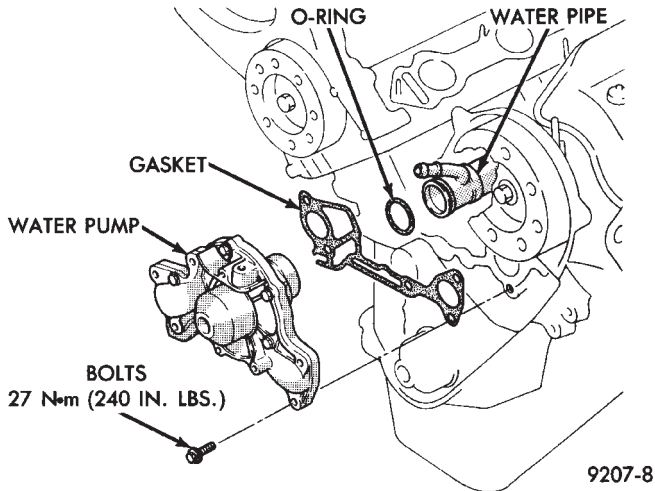

Fig. 3 Water Pump 3.0L Engine
The 3.0L pump bolts directly to the engine block, using a gasket for pump to block sealing (Fig. 3). The pump is serviced as a unit.
- (1) Drain cooling system. Refer to Draining Cooling System in this group.
- (2) Remove mounting bolts.
- (3) Separate pump from water inlet pipe (Figs. 3 and 4) and remove.